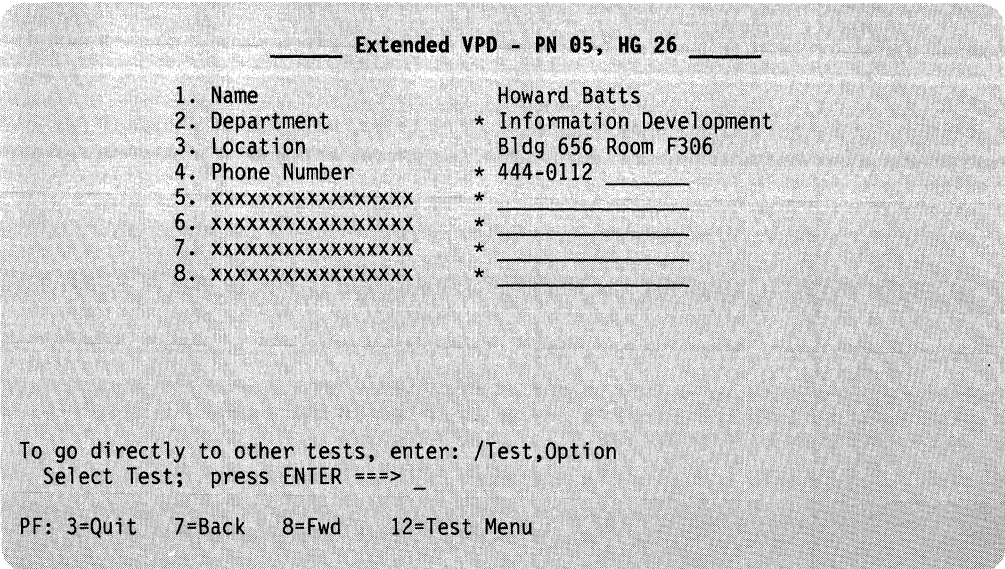

Figure 4-27. Example of Displayed Extended Vital Product Data
**Test 5, Option 5,n,m:** Displays Extended Vital Product Data for a specified port (n) and HG (m) (n=0–31, m=26–27). Figure 4-27 is displayed. If PN and HG are not specified when requesting the test, the PN and HG for the user's terminal will be displayed.